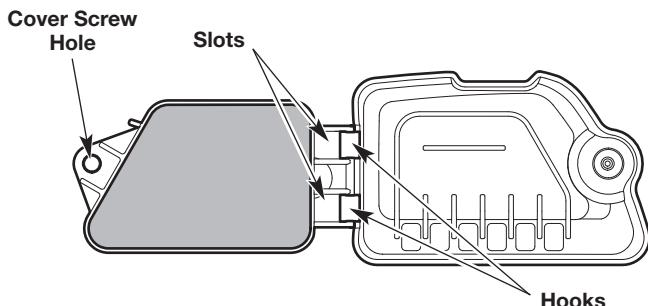

Fig. 21
7. Close the air filter cover: insert the hooks on the air filter cover into the slots on the air filter housing. Swing the air filter cover to the left and align the cover screw with the cover screw hole (Fig. 21). Tighten the cover screw to secure the air filter cover.